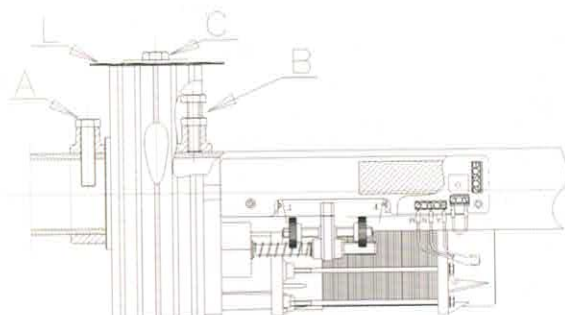
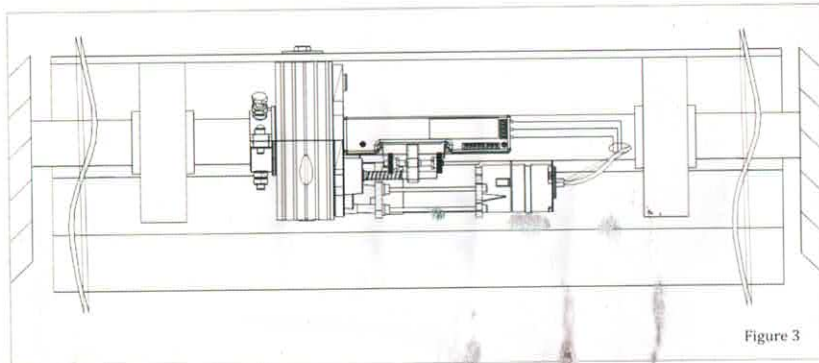
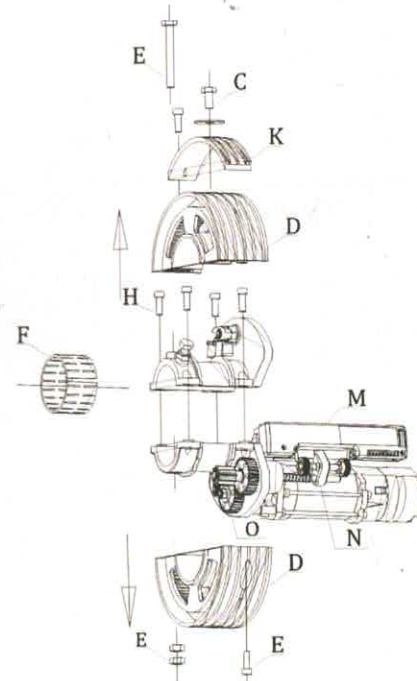

Figure 1
Figure 3
Figure 2
- 2) Effect on the tube of the shutter 3 perforations as shown in figure 1.
- 3) Remove the M10 screw (C) from the crown of the gearmotor (see figure 2).
- 4) Remove the two semi-crown (D) unscrewing the two M8 screws (E) as shown in figure 2.
- 5) Carefully remove the plastic band with rolls (F) avoiding heavy folds that would cause the spillage of the rolls.
- 6) Separate the two elements of the gearmotor (G) unscrewing the four M8 screws (H).
- 7) In case the diameter of the tube is inferior to 60mm, use the reductions Ø33 / Ø42 / Ø48 (I) positioning them on the 10mm hole drilled previously (see figure 1).
- 8) Assemble on the tube of the shutter the two elements of the gearmotor (G) using the four M8 screws (H) removed before.
- 9) Screw the M10 screw (A) without hexagon nut, screwing it inside the hole 10mm (see figure 1).
- 10) Tighten the M10 screw with nut (B) so as to block the gearmotor on the shaft and tighten said nut.
- 11) Install the plastic band with rolls (F) in its appropriate place.
- 12) Install the two semi-crown (D) fixing them with the two M8 screws (E). In presence of spring boxes diameter 220 mm use the adapter (K) (see figure 2)
- 14) Place the last element of the shutter on the motor and secure it through the screw M10 (C) with washer (see figure 1).
- 15) Make the electrical connections as shown in figure 3 passing the 4x1mm cable supplied, inside the shutter shaft avoiding any contact with the rotating parts (see figure 1). In presence of motor with electrobrake, insert the sheath of the brake inside the other hole Ø12.
- 21) Should the shutter need to be installed contrary to the description on figure 1, the steps described above should be carried out to the contrary as microswitch 2 will stop the descent and microswitch 1 will stop the opening.